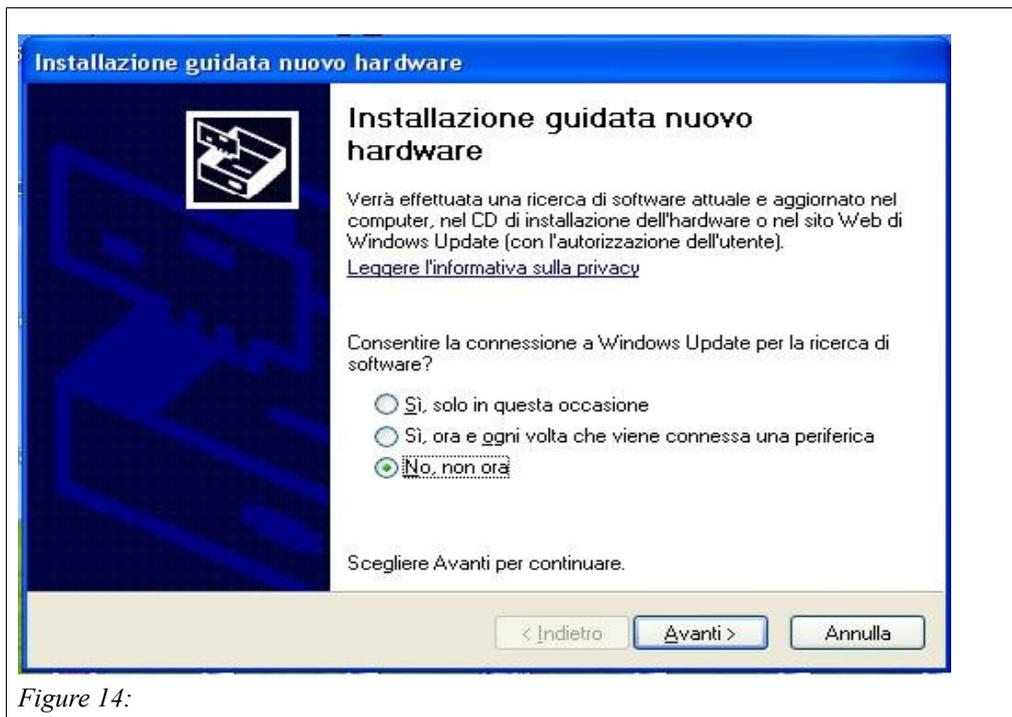

Figure 14:
9. when Windows requests the driver installation, the window shown in the figure 14 appears: